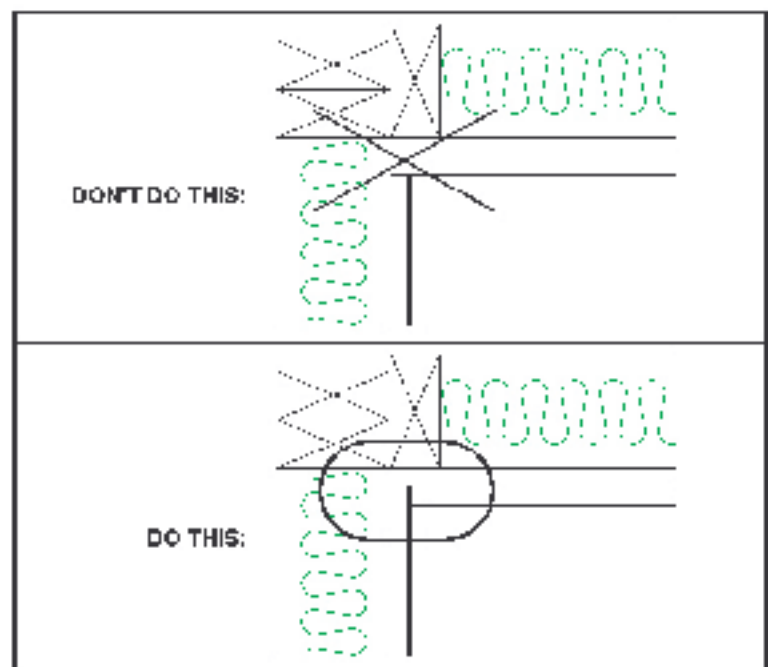

Figure 5.1: Method to properly overlap construction layers in corners
- When adding layers of building materials or *SheetBlok* to adjacent walls, put a layer on one wall, then the other, then one wall, then the other instead of putting all one wall's layers on at once then moving to the other wall. As shown in *Figure 5.1*, this gives sound waves a tougher path to snake through at the corners. Be sure to caulk (with *StopGap*) or mud all joints *before* adding the next layer.